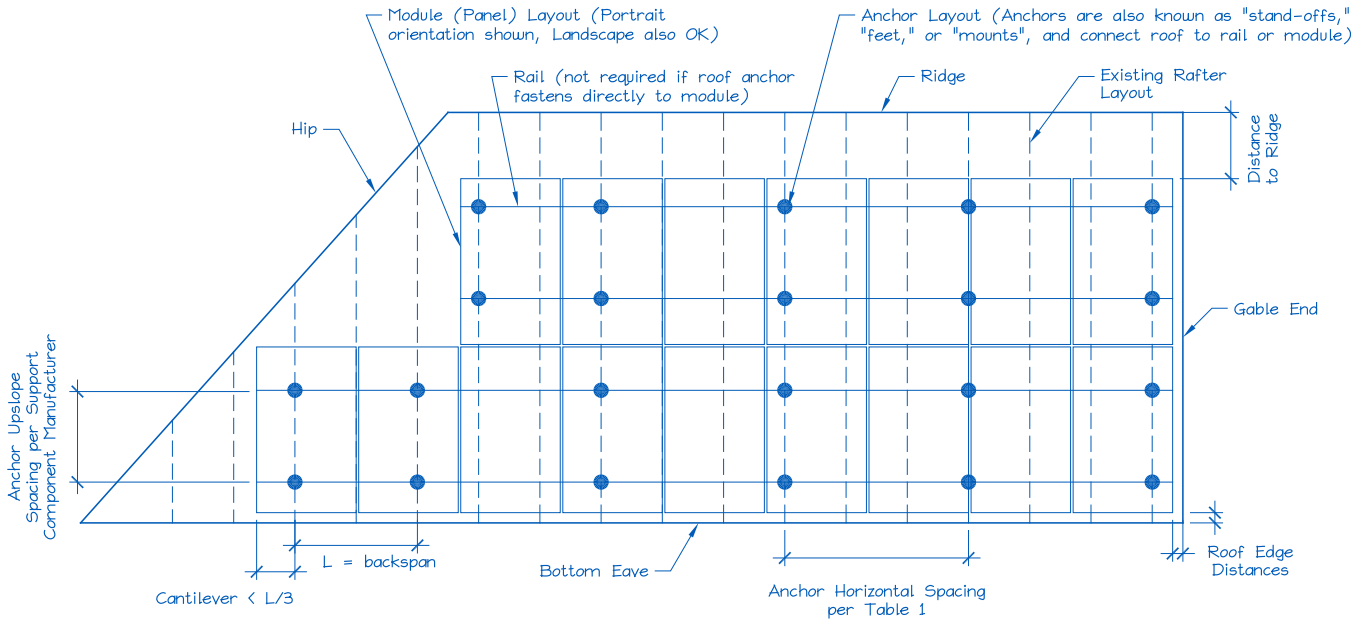

## Figure 1. Roof Visual Structural Review (Contractor's Site Audit) of Existing Conditions.
- 2) Does the roof structure appear structurally sound without signs of alteration, structural deterioration, or sagging, as illustrated in Figure 1?  Y  N